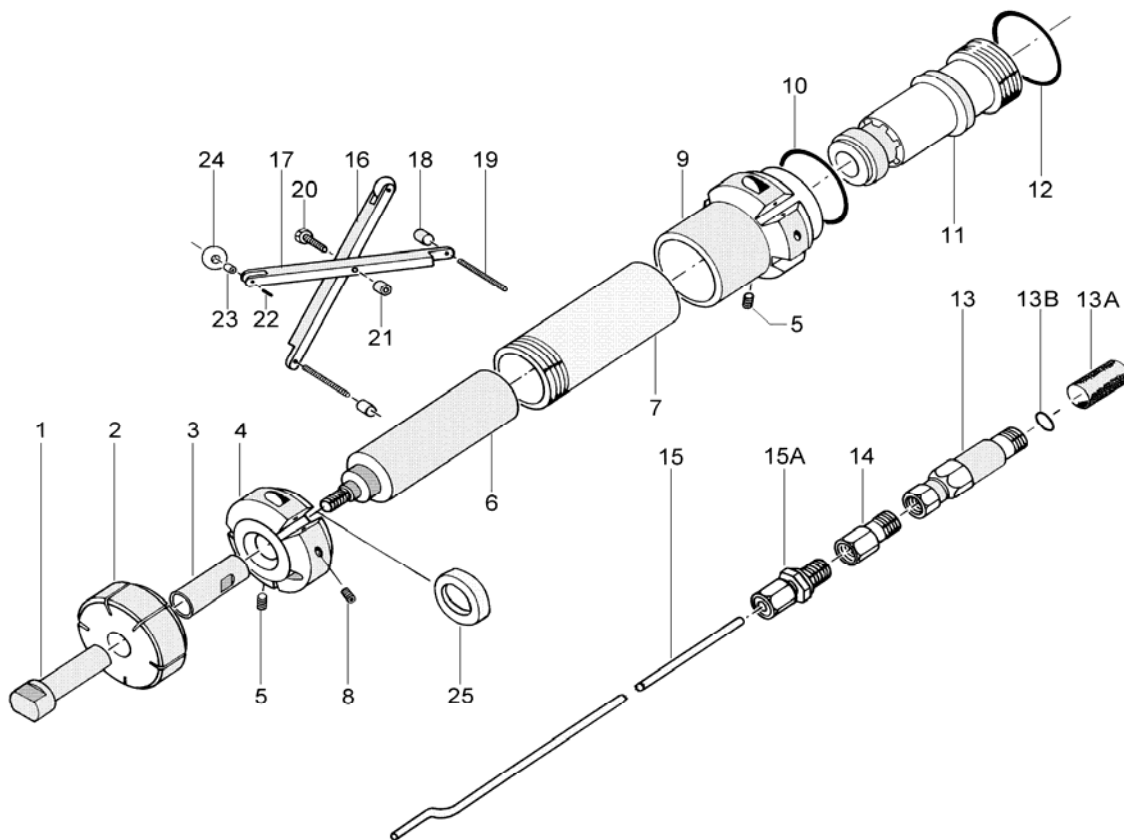

Figure 2
4.2 Remove strainer housing (Figure 2, Item13
6.1 PIPECOATER-I Tool, less Hoses and Gun. (See Figure 2.).....71024